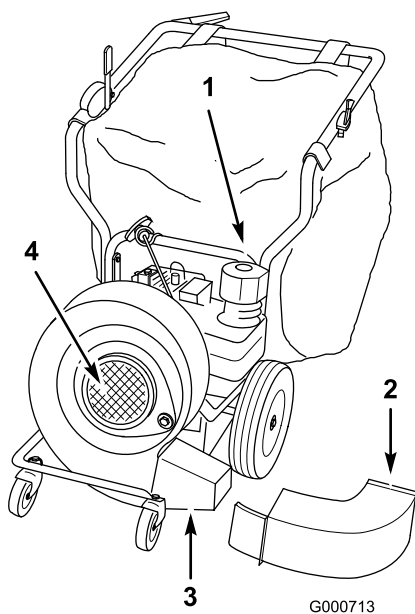

Figure 21
- Remove the bag neck from blower discharge chute (Figure 21). (You may remove the entire bag if desired.)
- Remove the retaining bolt and lock washer securing the blower discharge chute and remove the chute (Figure 21).
- Install the blower tube, securing it with the fasteners removed in step 4 (Figure 21).
- Lift blower housing slightly and rotate it 120° clockwise (as you face the blower) (Figure 21).
14. Install the blower intake screen, securing it with 1 of the washers and locknuts removed in step 2 (Figure 21).